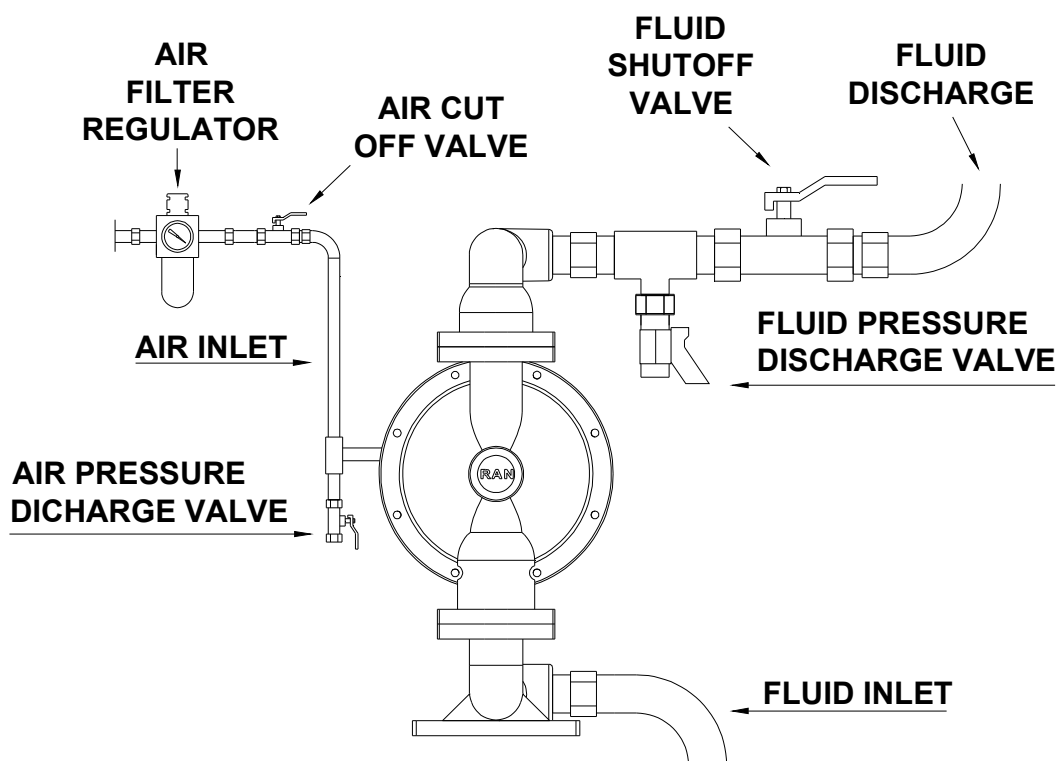

Figure 8- Typical installation of a pump.
A typical installation scheme of diaphragm pump is shown at Figure 8. Refer to your RAN™ Pump distributor for detailed information.
A bleed-type master air valve is required in your system to relieve air trapped between this valve and the pump. Trapped air can cause the pump to cycle unexpectedly, which could result in serious injury, including splashing in the eyes or on the skin, injury from moving parts, or contamination from hazardous fluids. See Fig. 8.
**1- Compressed air line accessories:** Refer to the Figure 8 for the connection scheme. Fix these accessories to the wall or to a bracket.
2. With a 5 mm allen key, remove the four screws, air valve body, and gasket. See Fig. 8.